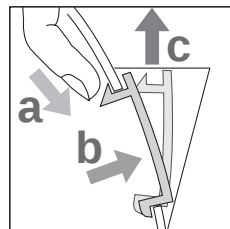
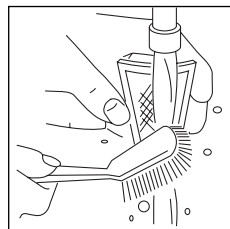

Fig. 1
Fig. 2
- Remove the filter (fig. 1) and wash with water (fig. 2). Refer to page 5. "Removing the scale filter"
- Empty the kettle and remove the filter as shown in figure 1.
- Rinse under a tap while brushing with a soft brush (fig. 2).